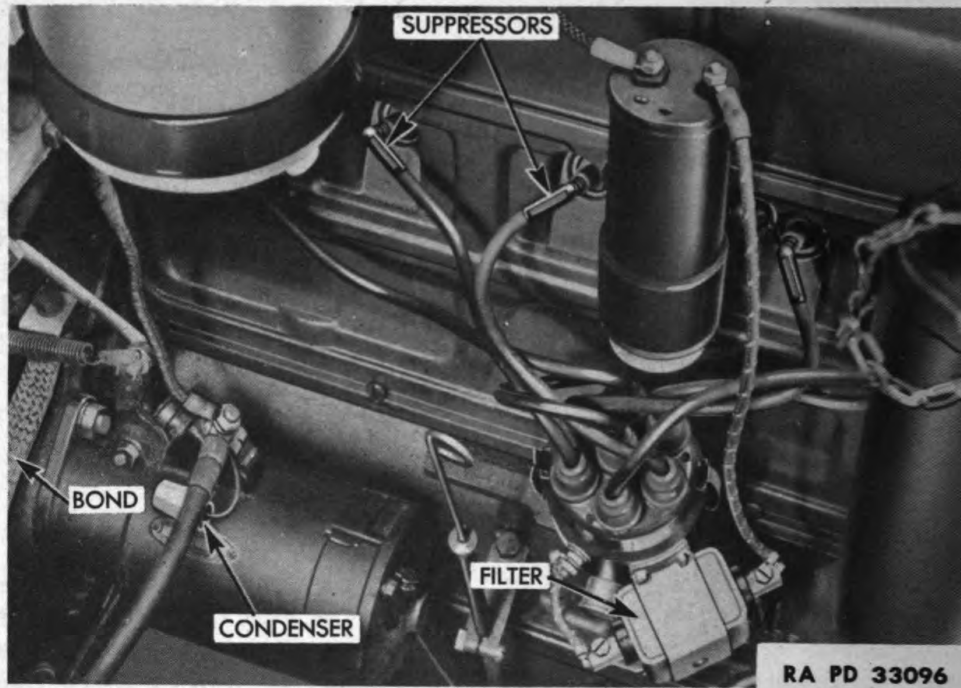
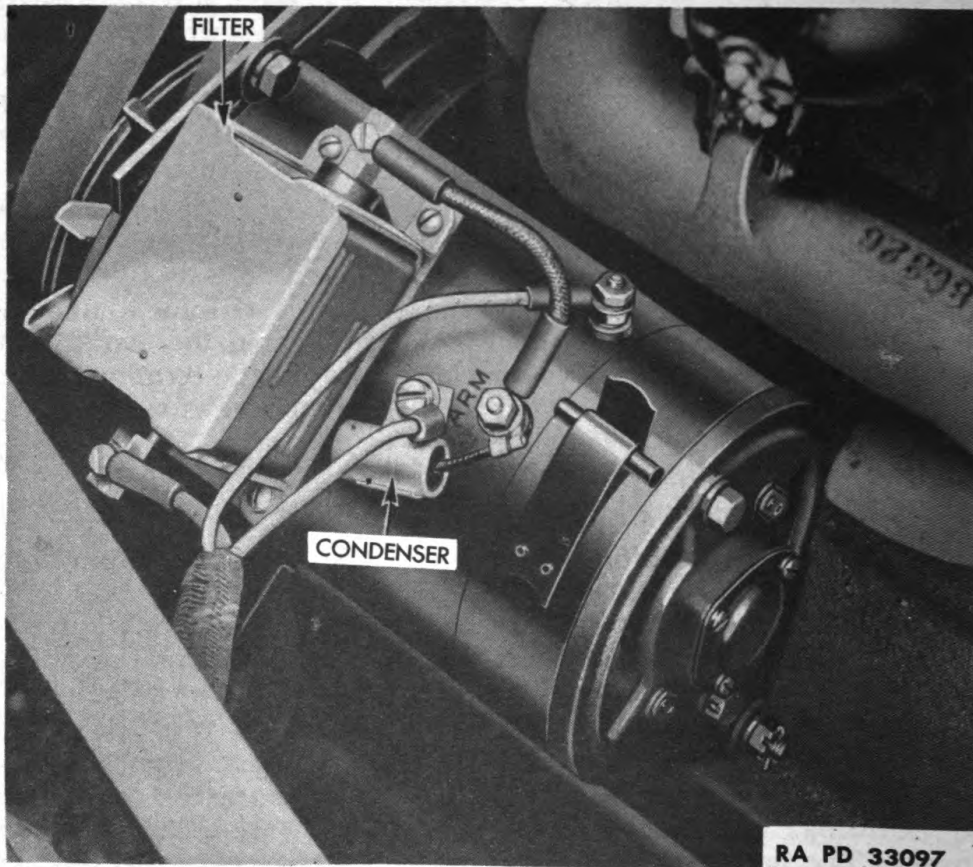

Figure 65—Suppressors, Distributor Filter, and Cranking Motor Condenser
Figure 66—Generator Filter and Condenser
(1) **GENERAL.** Many early production models included radio suppression equipment of the first type mentioned in subparagraph a (2) above, consisting of 7 suppressors, 6 filters, 2 condensers, 13 flexible metal bond straps, a metal screen, and a number of plated bolts, nuts, and toothed lock washers.
(2) **SUPPRESSORS** (fig. 65). Suppressors are used on each high tension lead to the spark plugs, and also on the high tension lead from the coil to the center of the distributor cap. When installing a suppressor on a high tension wire, the wire and insulation should be cut flush and the suppressor screwed on to the wire, making sure the screw enters in the center of the wire strands. The snap-on terminal must make a good contact with the spark plug. The resistance of these suppressors is approximately 10,000 ohms.
(3) **FILTERS** (figs. 65, 66, 67, and 68). Six filters are used to prevent the continued transmission of any disturbance along the wires by bypassing it to ground. Four are used in the generator circuit, and two in the ignition circuit. When replacing a filter it is important that the terminal screws and mounting bolts be tightened securely.
(4) **CONDENSERS.** Two condensers are used; one on the generator (fig. 66), and the other on the cranking motor (fig. 65), to accomplish